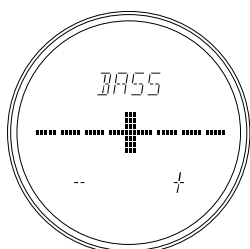

Fig.1
1. Press the **AMP** button  once or twice to set the mode of **JOG** control  to TONE control mode. "BASS" or "TREBLE" is displayed. (Fig.1)